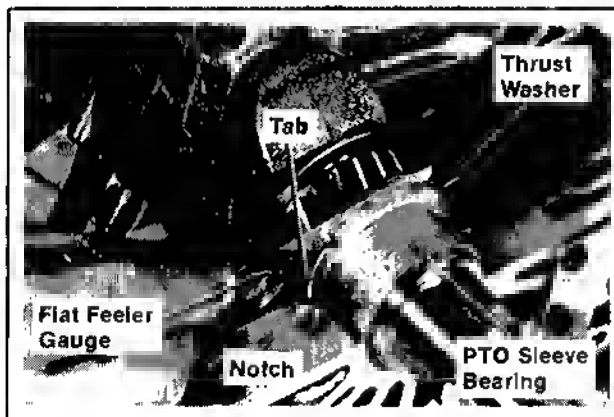

Figure 11-12. Position of PTO Bearing/Measuring Crankshaft End Play.
3. Install the crankshaft with connecting rods and bearings into crankcase. Make sure the locating tab of PTO end sleeve bearing is positioned in notch in crankcase (refer to Figure 11-12). The oil hole in flywheel end sleeve bearing must be aligned with the oil gallery in crankcase (refer to Figure 11-13).